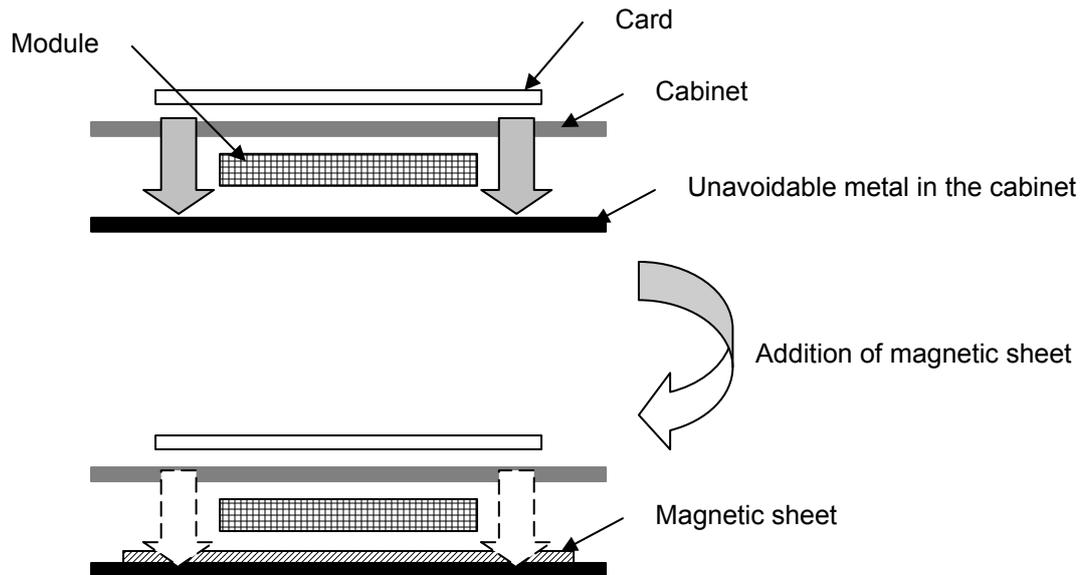

Figure A-2: Reduction of the impact of metal
4. If no performance improvement is achieved through the steps described above, add magnetic sheets (more than 70mm×60mm), as shown in Figure A-2, to the metal surface that faces the card and keep away the module from a metal plate at least 0.5mm ($d > 0.5$).